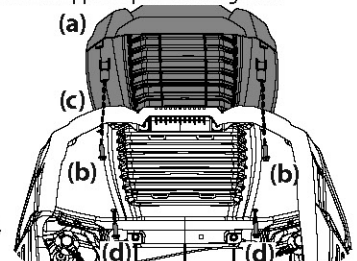

Figure 9
- Secure the screw-on hood topper (a) from below, hand-tighten the screws (b) on the rear half of the hood and then snug them. See Figure 9.
- With the rear screws in place, align the holes in the hood topper (a) with the holes in the hood (c) and secure in place with remaining two screws (d). See Figure 9.